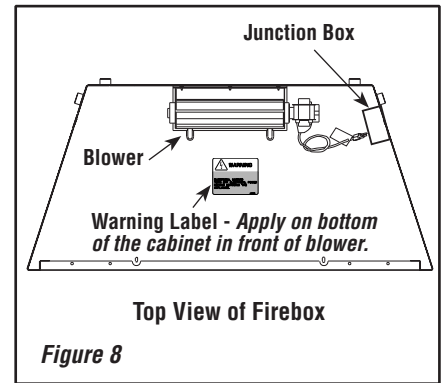

Figure 8
Step 6. Apply the *Warning Label* provided to the bottom of the cabinet as shown in **Figure 8**.